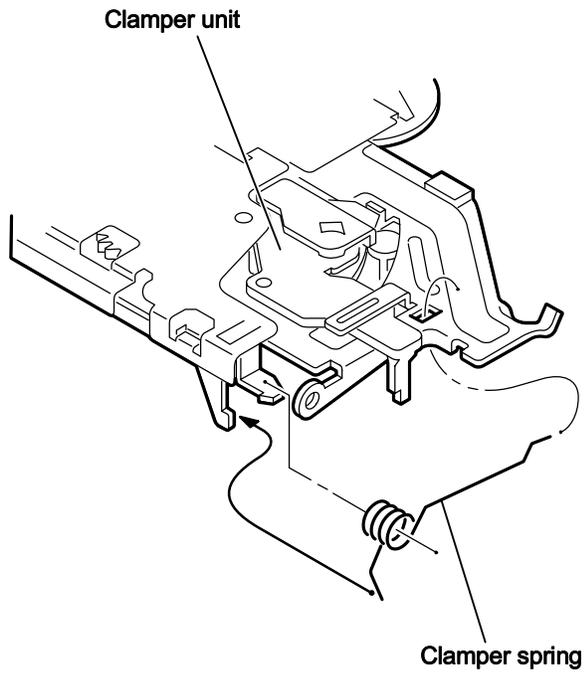

Fig.8
- Attach the clamber spring to the clamber unit. (See Fig.8.)
When reattaching, temporarily hook the end of the clamber spring as shown in the figure to make the work easy. (See Fig.8.)